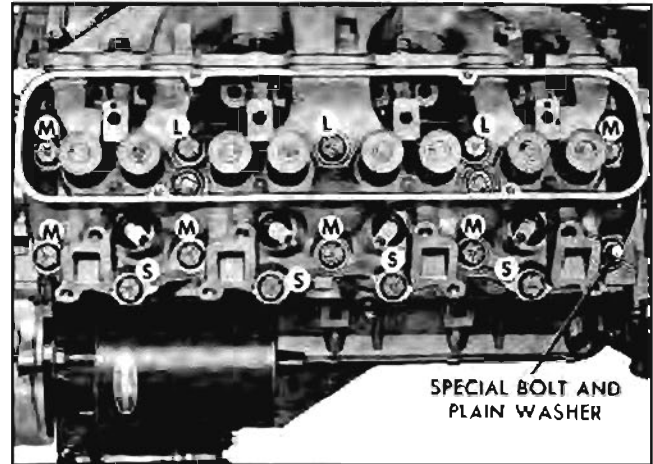

Fig. 6-90 Cylinder Head Bolt Location
5. Install bolts as shown in Fig. 6-90.